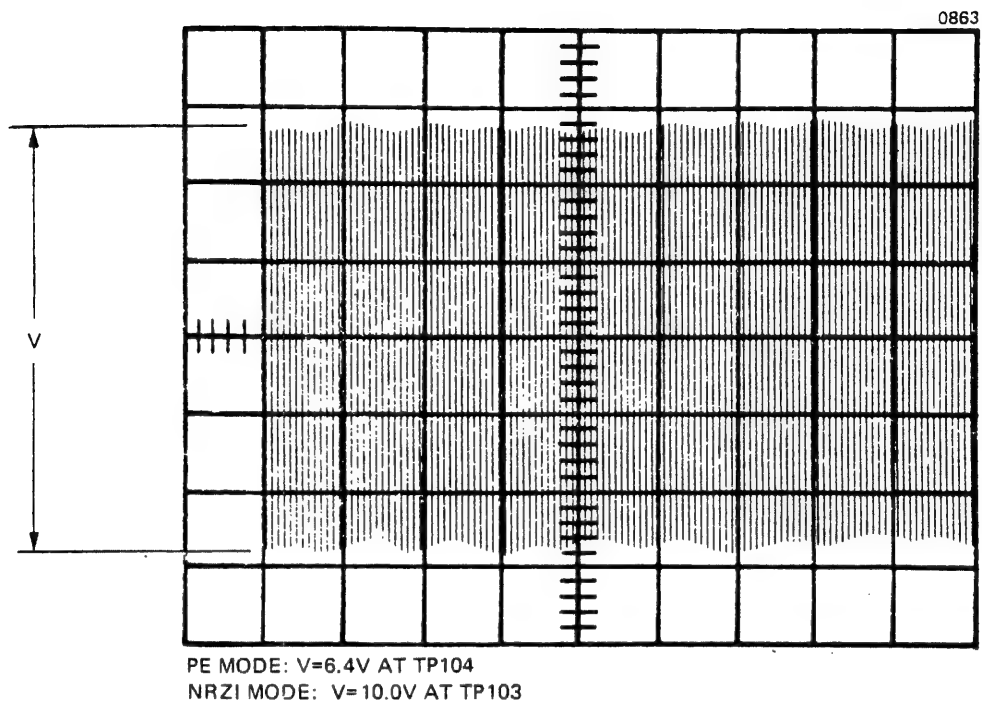

Figure 4-26. Read Amplifier Gain Adjustments for Dual-Density Systems
- c. Connect oscilloscope channel 1 probe to test point TP104 and run tape forward. Adjust potentiometer R109 until analog signal has a 6.40 Volts peak-to-peak amplitude as shown in Figure 4-26.
- c. Connect oscilloscope channel 1 probe to test point TP103 and run tape forward. Adjust potentiometer R110 until analog signal has a 10 Volts peak-to-peak amplitude (see Figure 4-26).